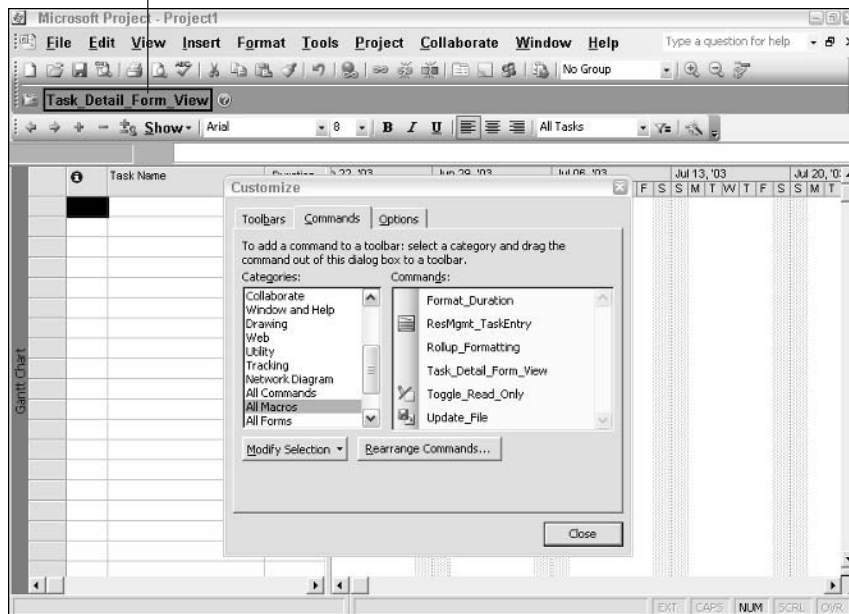

Figure 24-8: The new button after dropping it on the toolbar.
6. Release the mouse button and a new button appears on the toolbar, as shown in Figure 24-8. The name of the button is so long that Project wrapped the Standard toolbar onto a second row.